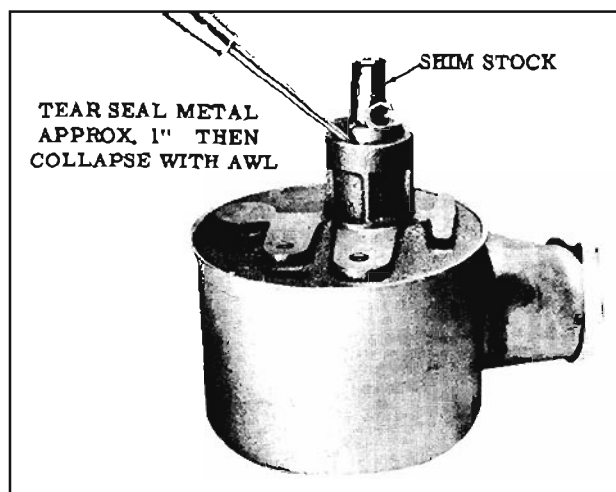

Fig. 8-23 Removing Pump Seal
3. Tear metal body approximately 1" with diagonals. Force an awl between the pump body and the OD of seal to collapse the seal, then pry seal from pump body. (Fig. 8-23) Remove shim stock.